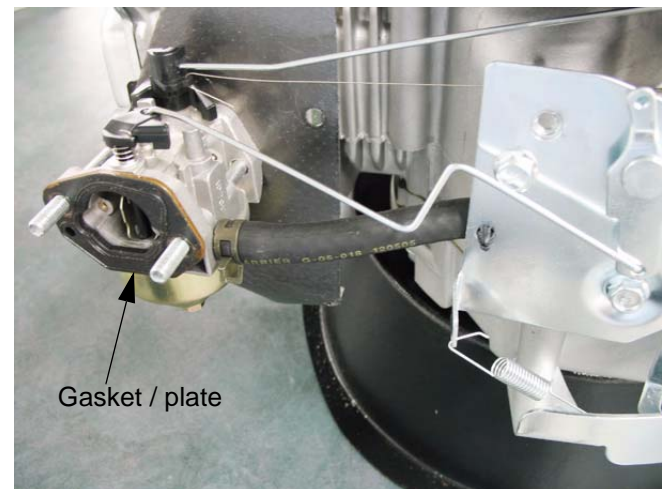

Figure 8.13
- 8.13. Behind the filter housing is a steel plate with formed rubber gaskets vulcanized to each surface. See Figure 8.13.